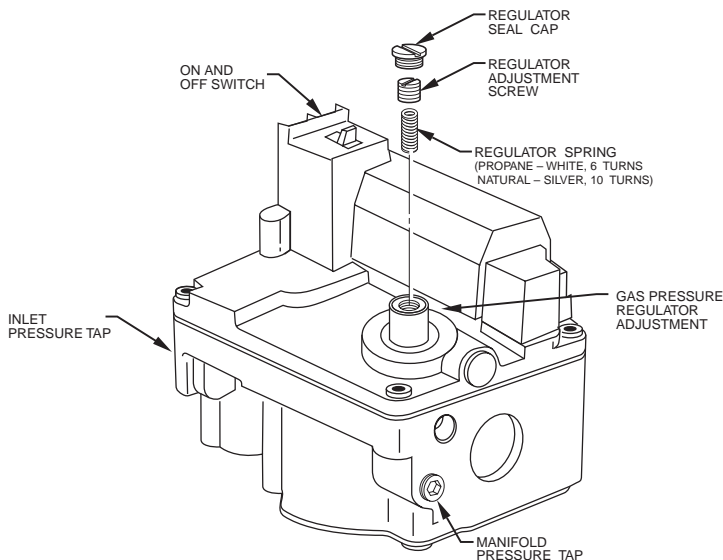

Fig. 16A—Single Stage Gas Valve
2. Remove regulator seal cap. (See Fig. 16A.)
2. Remove 1/8-in. pipe plug from inlet pressure tap on gas valve. (See Fig. 16A and 16B.) DO NOT DISCARD 1/8" PLUG.
2. Remove 1/8-in. pipe plug from manifold pressure tap on downstream side of gas valve. (Fig. 16A or 16B.)
3. Attach manometer to manifold pressure tap on gas valve. (See Fig. 16A.)